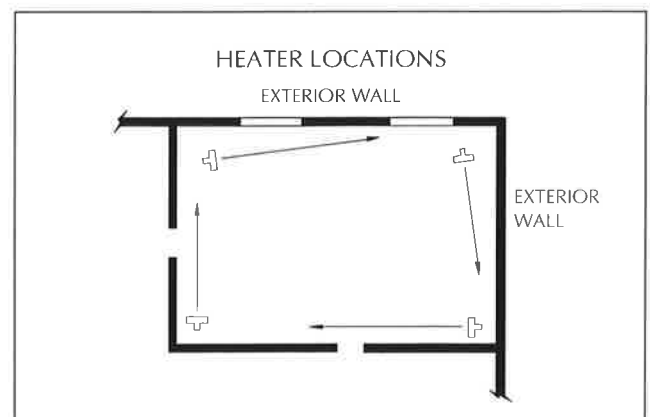

FIGURE 1
4. The air discharge is directed across areas of heat loss, such as doors and windows (see Figure 1).
5. The air discharge is directed along and at a slight angle toward exterior walls (see Figure 1).
7. Air discharge streams support each other and create a circular air flow. It is not required that the heater's air throw reaches the next heater (see Figure 1).